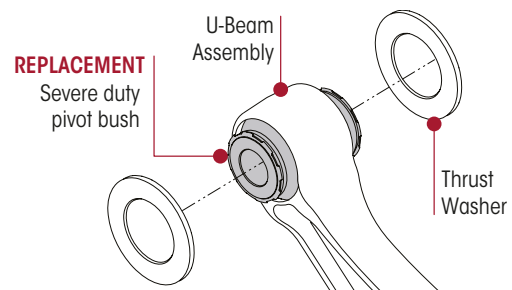
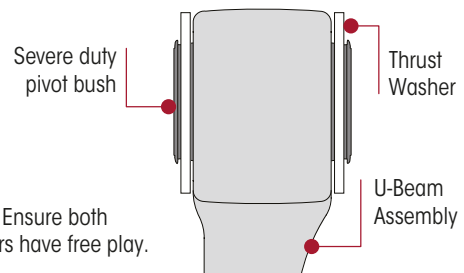

Figure 85: Severe-duty Pivot Bush Thrust Washer Assembly
Figure 86: Severe-duty Pivot Bush Thrust Washer Check
9. Severe-duty Pivot Bushes – Snap the thrust washers onto the bush, (refer Figure 85) and ensure there is free play on both washers (refer Figure 86). If one washer does not seat properly or is very snug use a dead blow hammer to centre the bush. If a dead blow hammer is not sufficient, you may need to use the assembly tools to correctly centre the bush.
11. Allow the lubricant four (4) hours to dissipate before fully operating the vehicle.